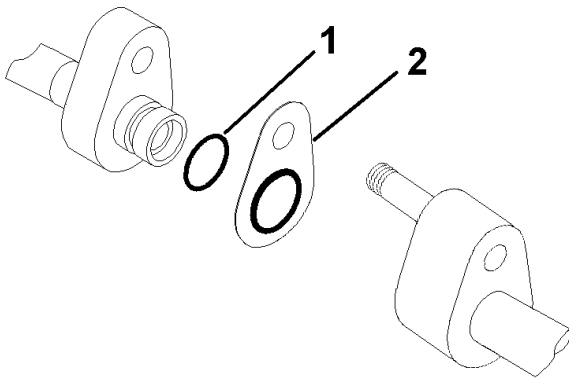

Figure 14 A/C Fitting C-Plate and O-Ring
- F. Anytime an A/C fitting is disconnected, the O-ring and/or C-plate must be replaced (Figure 14). The new O-ring must be lubricated with **MINERAL-BASED** oil. The C-plate does not require lubrication. Never use grease, penetrating oil, motor oil, Ester or PAG oil, etc. to lubricate O-rings and fittings.